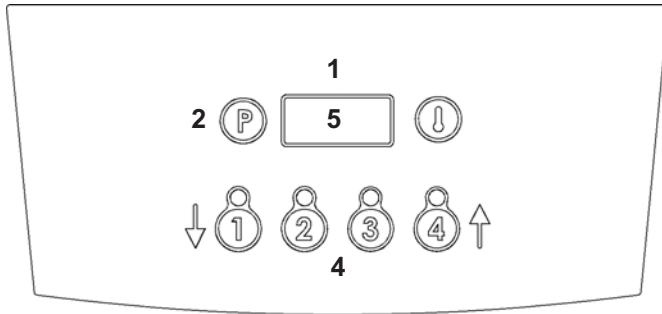

Figure 2 – G2844/2844F Control Panel
### 2.4.1 G2844 and G2844F Fryers Control Panel (See Figure 2)
5. Turn control knob to desired temperature (*140°C*) (G2845 only). Heat demand indicator will illuminate (Figure 2, item 4).